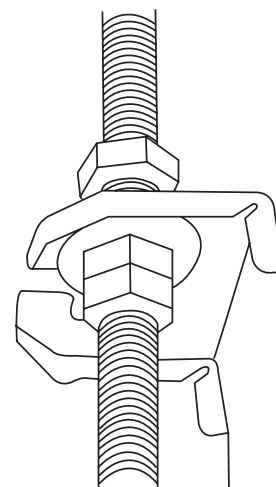

Fig. 4.9
8. Mount the indoor unit. You will need two people to lift and secure it. Insert suspension bolts into the unit's hanging holes. Fasten them using the included washers and nuts. (See Fig. 4.9).